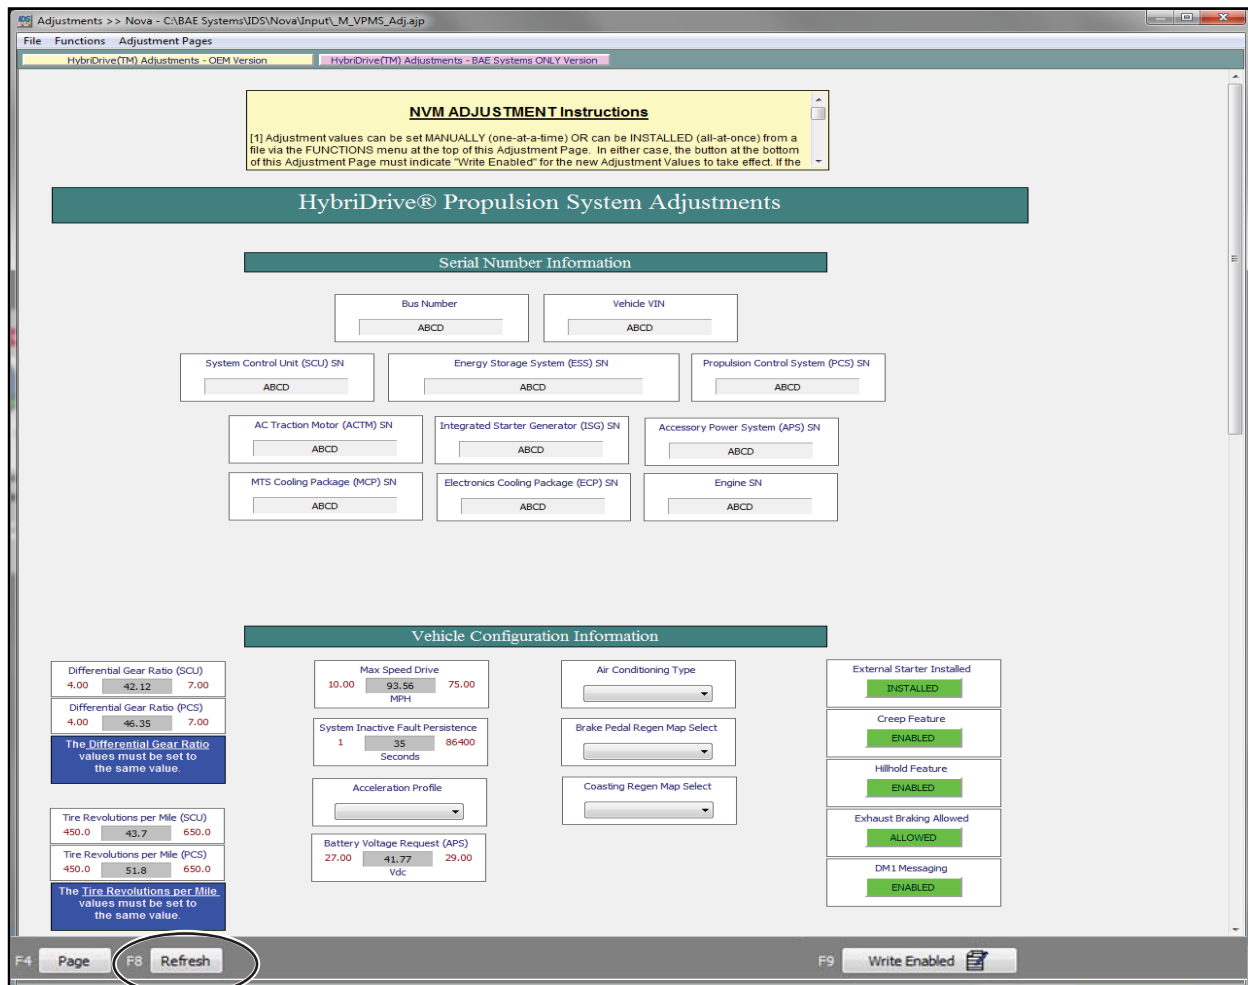

Figure 6 - Refresh screen
- 1.10. Select "Refresh" or F8. See Figure 6.